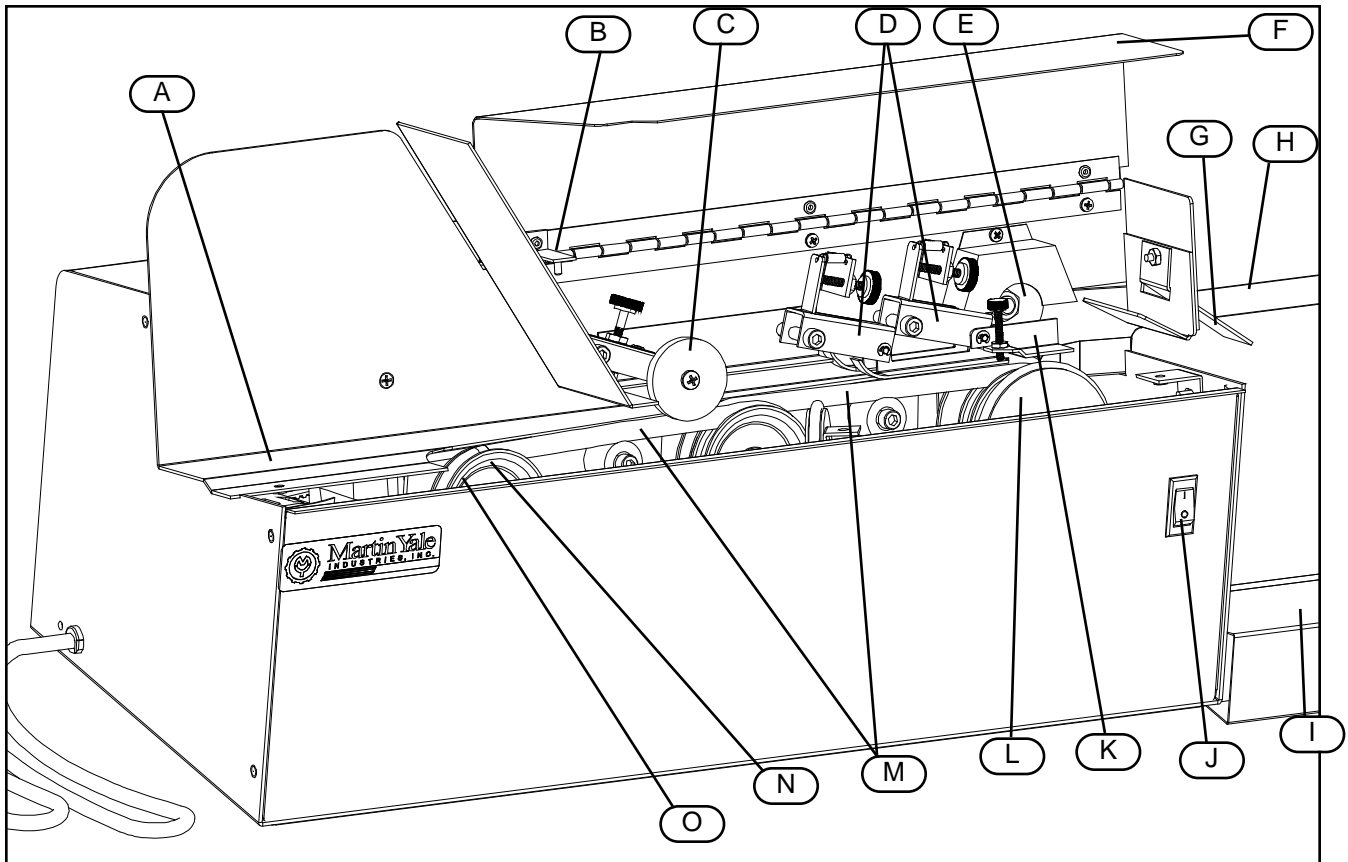
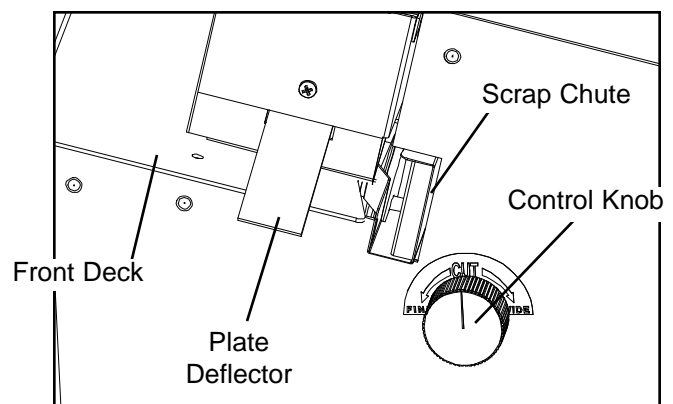

Figure 1
Figure 2
\* Note the twin spiral feed belts (M, see Fig. 1). Their spiral counterclockwise action shunts envelopes against the back plate for precision slitting. Note that the belt at left is angled more sharply. This “pre-feeds” envelopes to the belt at right.
\* The transporter wheel (not shown), another Model 62001 feature, acts as a further assurance that out-size pieces will be shuttled inward on the front deck (Fig. 2).
Self-sharpening blades made of precision steel (E) cut a measured strip from each envelope, whether fed face-up or face-down. The control knob at right (see Fig. 2) adjusts the blade and permits the operator to vary the width of cut from wide to fine.
Interiors of most mail opening machines are inaccessible without the removal of the entire operating assembly. The Model 62001 has a unique split deck feature which solves that problem. The deck is split lengthwise into two halves, front (see Fig. 2) and rear. The front half is removable, making cleaning, inspection and repair of the interior of the letter opener easier.
This is a one-time only installation. Look for the plastic packet inside the shipping carton. It contains the nickel-plated plate deflector and screw. Simply attach outside at point as shown. (See Fig. 2)
The catcher base simply sits on the exit side of the folder in a position to catch processed envelopes as they are ejected from the machine (See Fig. 1 for placement). The scrap bin lies in the narrow recess of the catcher base. The entire assembly then is aligned so that the inside front wall of the scrap bin butts against the front edge of the protruding lip of the scrap chute (See Fig. 2).
Check the control knob (Fig.2) for width of cut desired, from wide to fine. The cut should be deep enough to open envelopes cleanly but fine enough to insure that the blade does not come into contact with contents such as checks and money orders, etc., nor coins, staples and paper clips. Make sure the Model 62001 is 'OFF' as indicated by the 'O' on the power switch. Plug the machine into an appropriate power outlet.